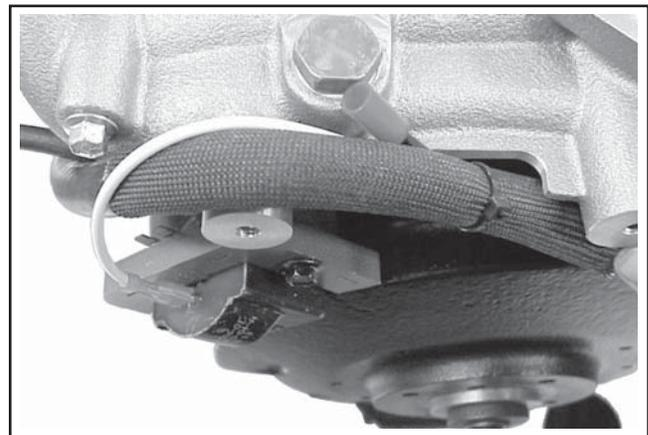

Figure 11-73. By-pass Hose and Wiring Routed within Cutout of Intake Manifold (Some Models).
- Connect the kill leads to the ignition modules. Route the wiring harness and kill leads as shown in Figures 11-73 and 11-74. Push (bend) the loop portion of the clamp on the #1 side back, as far as possible, for maximum clearance from fan.